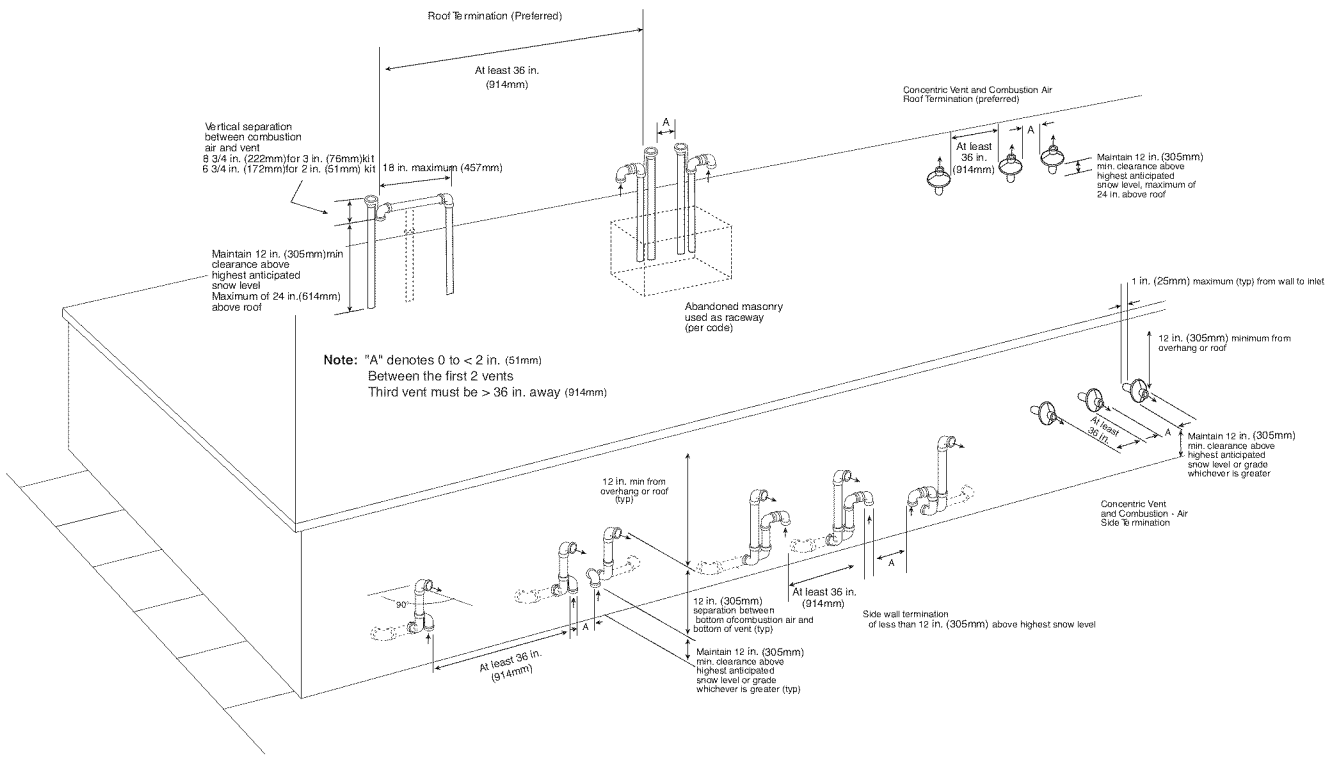
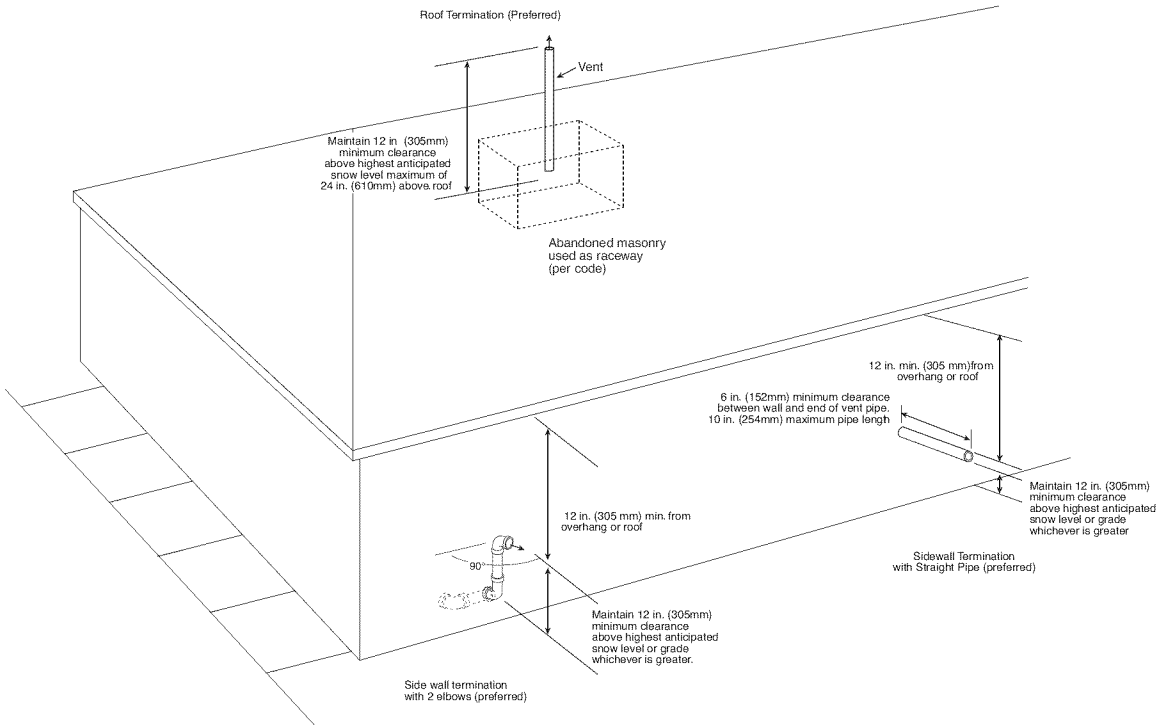

Fig. 43 - Combustion Air and Vent Pipe Termination for Direct Vent (2-pipe) System
Fig. 44 - Vent Pipe Termination for Ventilated Combustion Air System
NOTE: Do not count elbows or pipe sections in terminations or within furnace (all elbows shown in Fig. 43 and Fig. 44 are not be counted).
Combustion-air (direct vent/2-pipe system only) and vent pipe must terminate outside structure, either through sidewall or roof. For vent termination clearance, refer to Table 8 for Direct Vent/2-Pipe system and Table 9 for Non-direct Vent/1-Pipe system. For exterior piping arrangements, refer to Fig. 43 for Direct Vent/2-Pipe system and Fig. 44 for Non-Direct/1-Pipe system.
Sidewall combustion air pipe termination (direct vent/2-pipe system only) and vent pipe termination may be extended beyond area shown in Fig. 43 or in Fig. 44 per application in outside ambient by insulating pipe as indicated in Table 10.
Roof terminations—Locate assembly through roof to appropriate height as shown in Fig. 43.
Sidewall terminations—Locate assembly through sidewall with rain shield positioned no more than 1-in. (25 mm) from wall as shown in Fig. 43.
5. Check required dimensions as shown in Fig. 43.
Roof terminations—Loosely install pipe coupling on properly cut vent pipe. Coupling must be positioned so bracket will mount as shown in Fig. 43.
For applications using combustion-air pipe option, indicated by dashed lines in Fig. 43, install 90° street elbow into 90° elbow, making a U-fitting. A 180° U-fitting may be used.
Sidewall terminations—Install bracket as shown in Fig. 43. For applications using vent pipe option indicated by dashed lines in Fig. 43, rotate vent elbow 90° from position shown in Fig. 43.
4. Check required dimensions as shown in Fig. 43.
(Direct Vent/2-Pipe System ONLY)—When 2 or more 58MVB furnaces are vented near each other, 2 vent terminations may be installed as shown in Fig. 43, but next vent termination must be at least 36 in. (914 mm) away from first 2 terminations. It is important that vent terminations be made as shown in Fig. 43 to avoid recirculation of flue gases.